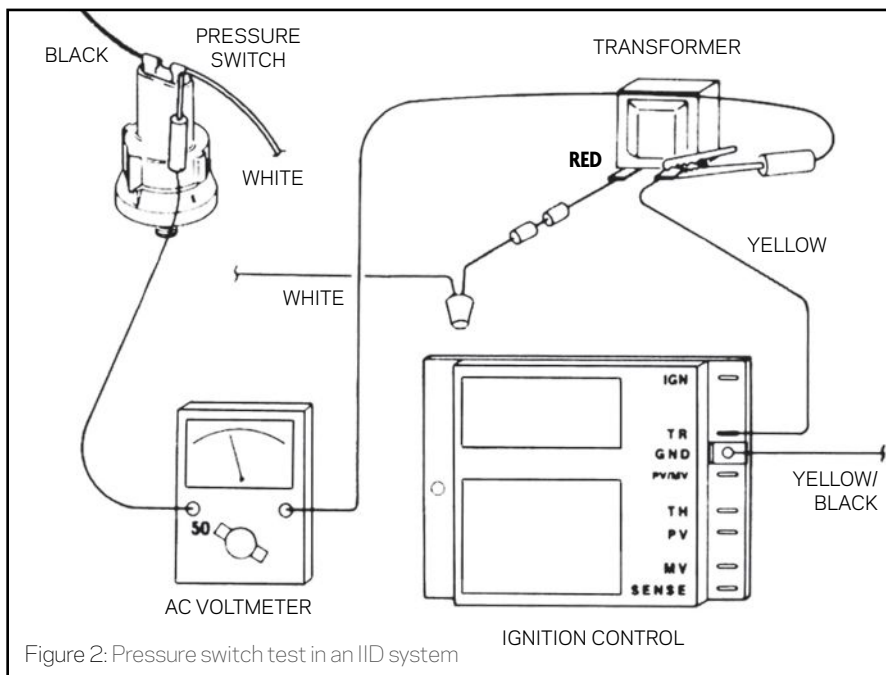

Figure 2: Pressure switch test in an IID system
- **Check the circuitry.** With the lead from the voltmeter still in contact with the ground or common terminal on the transformer, check for voltage along the circuitry, starting with the safety fuse; use the other lead as a probe. Then move to the fusible link, the high-limit switch and the pressure switch (see Figure 2). If there's voltage at these points, the parts are good. If not, they need replacing.